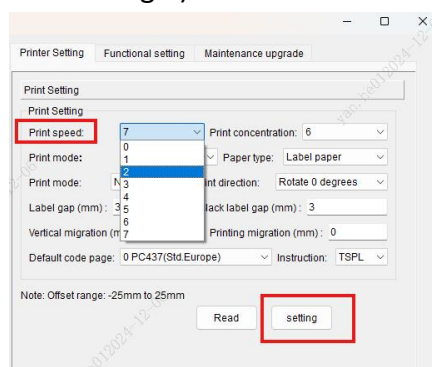

Fig.6
- ① **Print Speed:** The speed range is 0~7; click the dropdown arrow on the right to freely select a value (shown in Fig.6).